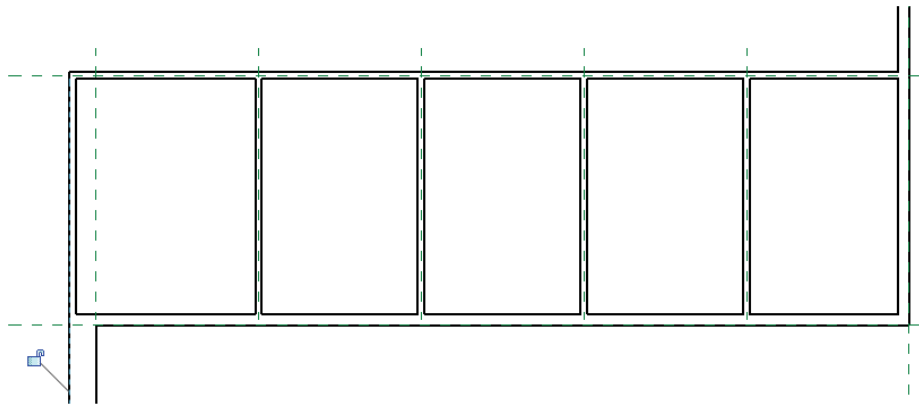

FIGURE 1.14 Results of the Align tool
6. Note that the leftmost interior wall is not aligned with the thicker Brick On CMU wall. Click the Align tool from the Modify tab of the ribbon. First, click the inside edge of the thicker wall because that is what you want to align to. The second click should be on the outside edge of the leftmost interior wall. This is what you want to move. The results should resemble Figure 1.14.